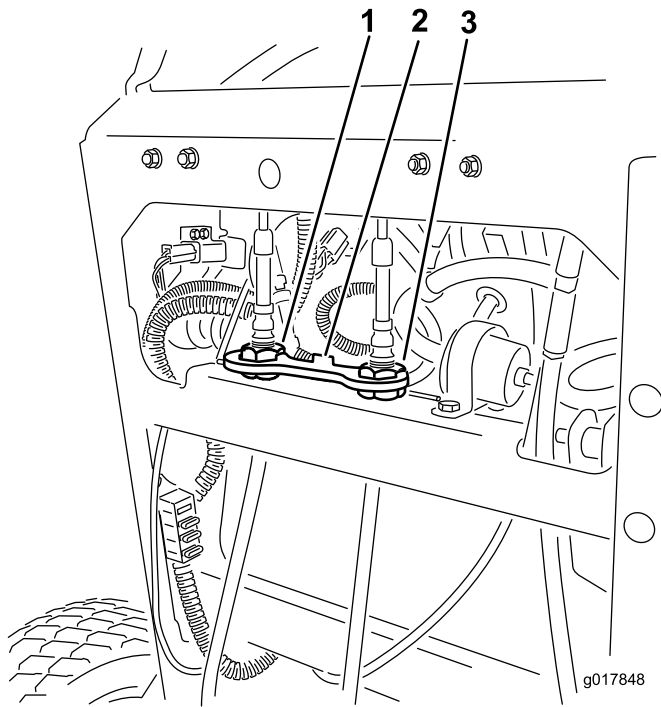

Figure 56
- Rotate the right cable adjustment to position the right motion-control lever in the center of the control-panel neutral-lock slot (Figure 56).